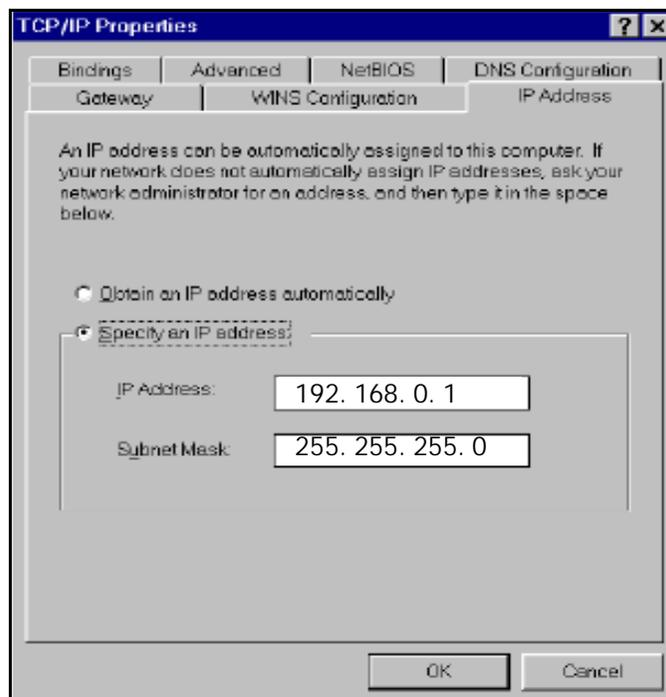

Figure 3-4 TCP/IP Window
5. Type new IP address 192.168.0.1 as shown in Figure 3-4, then click on *OK* button.